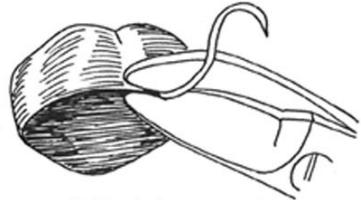

Figure 8 - Crown and Bridge scissors trimming crown
- c. Using the small, curved crown and bridge scissors, reduce the margins approximately the same amount that the crown is in supra-occlusion. See Figure 8.